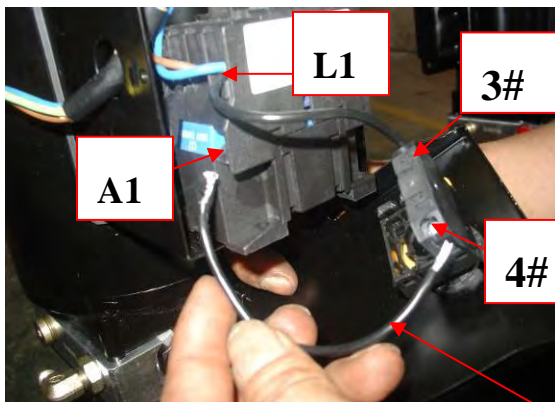
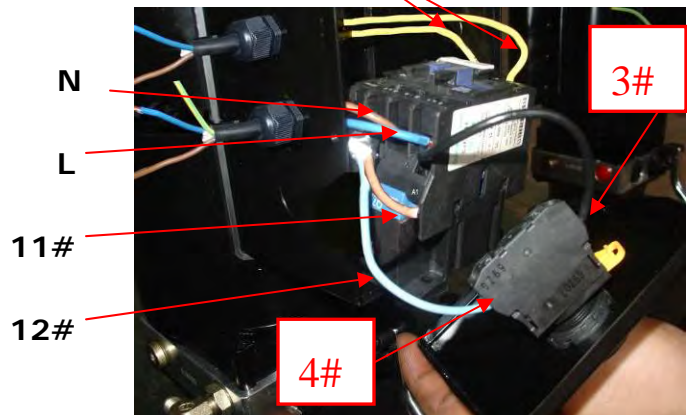

Fig. 35
Fig. 36
4. Connect the Limit Switch: Remove the line on Connecting Terminal **4#** of control button and **A1** of AC contactor first (See Fig. 35), connect wire **12#** Limit Switch with Terminal **4#** of control button and connect wire **11#** with terminals **A1** of AC contactor. (See Fig. 36)